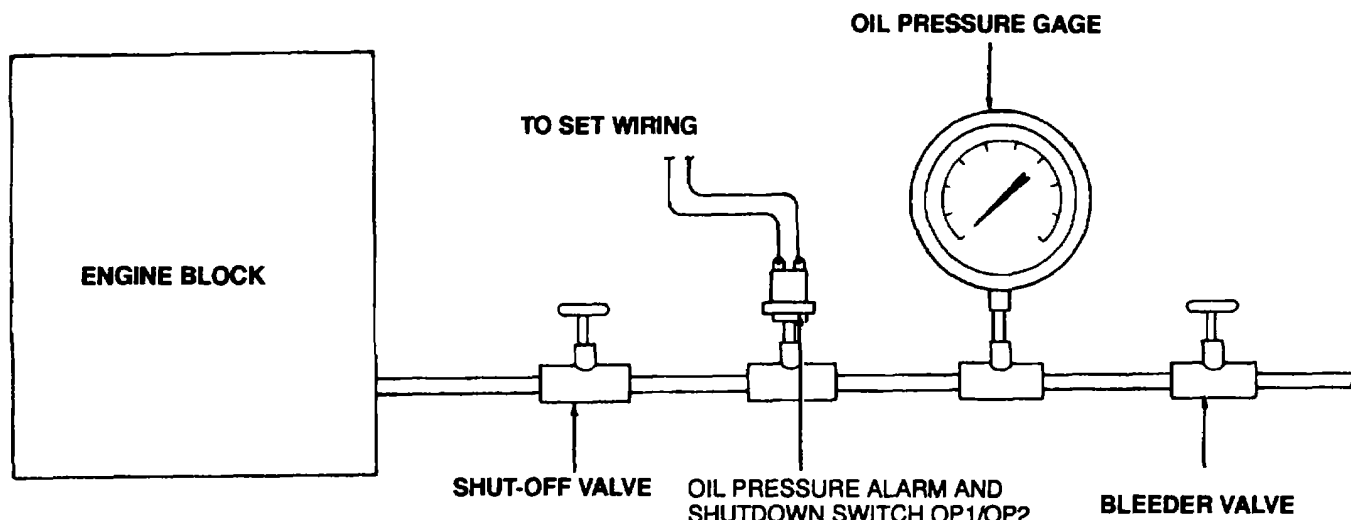

Figure 12-4. Oil Pressure Alarm and Shutdown Switch OP1/OP2 Test Setup
- (1) Preparation for test. With set not operating remove OP1/OP2 from the engine block and reconnect as shown in Figure 12-4, with OP1/OP2 and oil pressure gage in approximately the same horizontal plane as OP1/OP2 tap located on the engine (Figure 12-1). Remove the oil filler cap, and insert the open end of the flexible oil line in the filler tube.
- (2) Test.